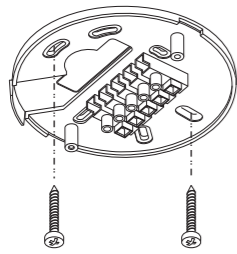

FIG. 12
3.3.7 Fasten bottom case on the ceiling with wood screws (See FIG. 12).